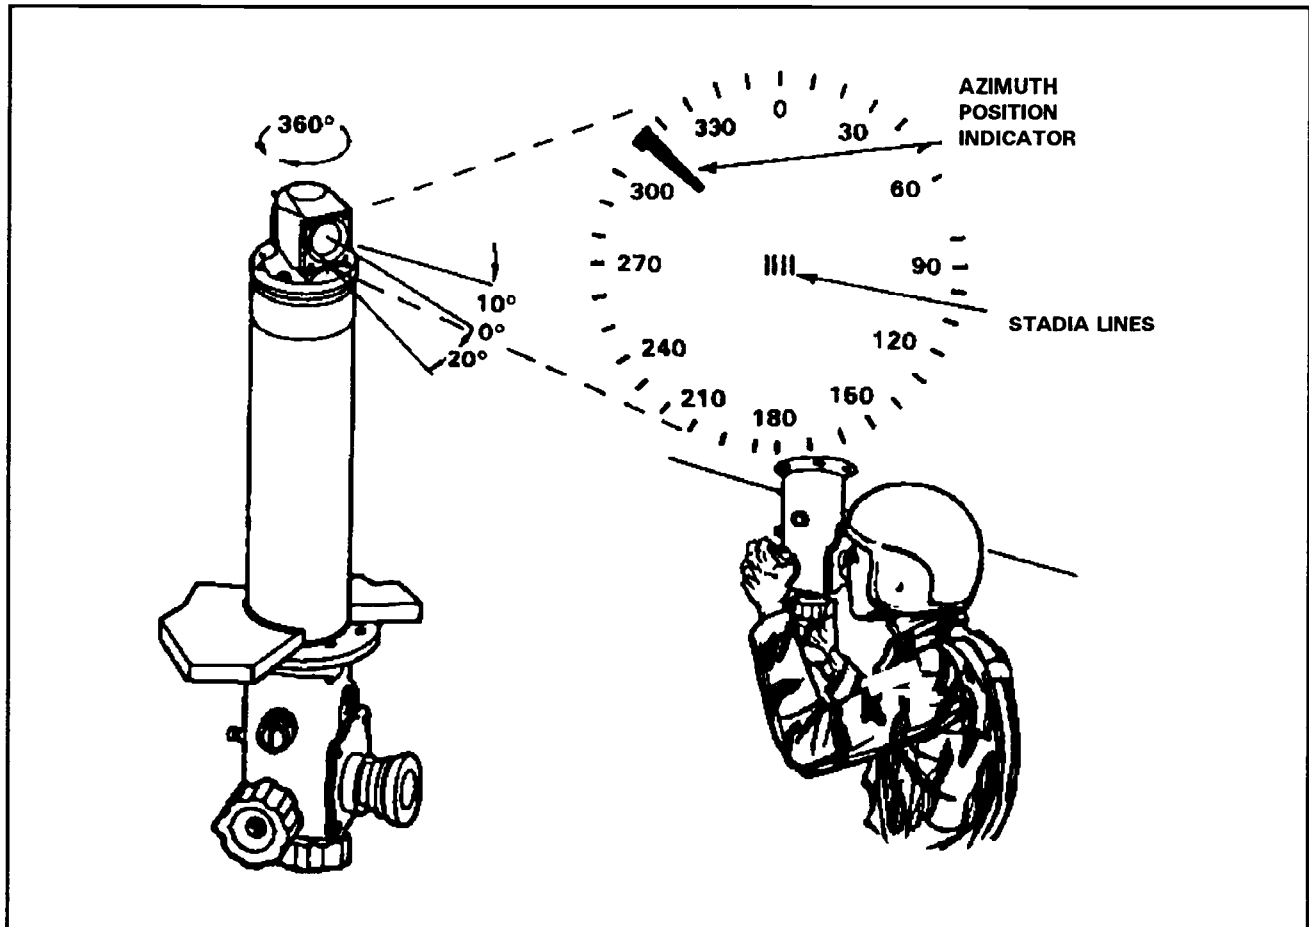

Figure 4-11. Squad leader's periscope.
a. Description. The parts of an SLP are a humidity indicator, a focus control ring, the eye cup, the reticle, an azimuth control knob, and an elevation control knob (Figure 4-11, page 4-20).
(1) The humidity indicator contains replaceable desiccant. DA Form 2404 is used to report when the desiccant shows pink.
(2) The focus control ring is directly behind the eye cup. The squad leader turns the focus ring while looking through the SLP to properly focus the image.
(3) The eye cup is an inflated rubber eye protector to protect the eye during use of the SLP.
(4) The SLP reticle is a nonmoveable azimuth scale in degrees. Zero is always to the front of the vehicle. As the SLP is rotated, the azimuth indicator is rotated around the azimuth scale to indicate the direction to the target in relation to the vehicle. Four stadia lines, located in the center of the reticle, are used to compute the estimated range to targets.
(5) The azimuth control knob rotates the SLP in azimuth. The squad leader turns the knob clockwise to rotate the line of sight to the left. (Three rotations of control knob causes the line of sight to rotate 360 degrees in azimuth.)
(6) The elevation control knob is rotated clockwise to raise the line of sight and counterclockwise to lower the line of sight. The full range of motion is 10 degrees above horizontal and 20 degrees below horizontal.